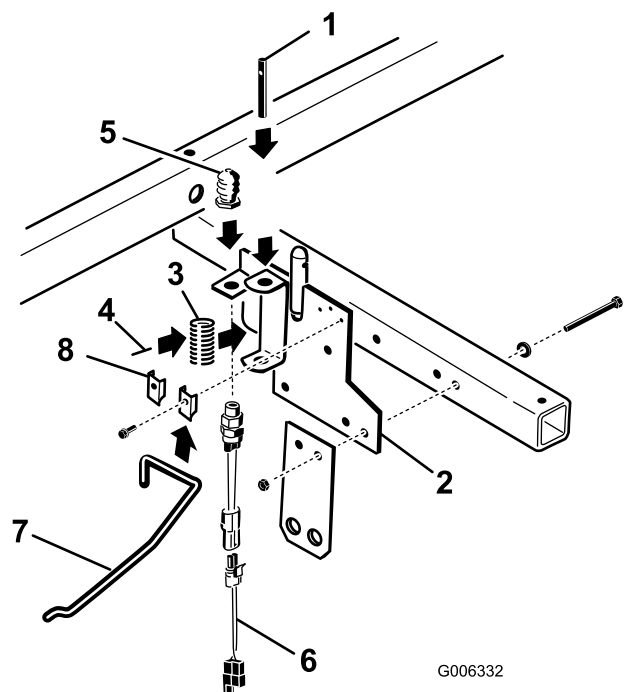

Figure 4
9. Insert the spring into the new seat support bracket (Figure 4).
10. Insert the pin into the new seat support bracket and spring (Figure 4).
11. Position the pin so the roll pin hole is just below the top of the bracket (Figure 4).
12. Pry the top of the spring down and insert the new roll pin through pin (Figure 4).
13. Remove the rubber boot and the top jam nut from the button end of the new seat switch (Figure 4).
14. Insert the button end of the seat switch up through the hole in the new seat switch bracket and loosely secure it to the bracket with the jam nut (Figure 4).
17. Connect the wire harness adapter to the seat switch wire harness (Figure 4).
18. Mount the seat prop rod to the seat support bracket with (2) skid clips and washer head screws (Figure 4).
19. Mount the seat support bracket assembly to the frame with the cap screws and nuts previously removed (Figure 4).